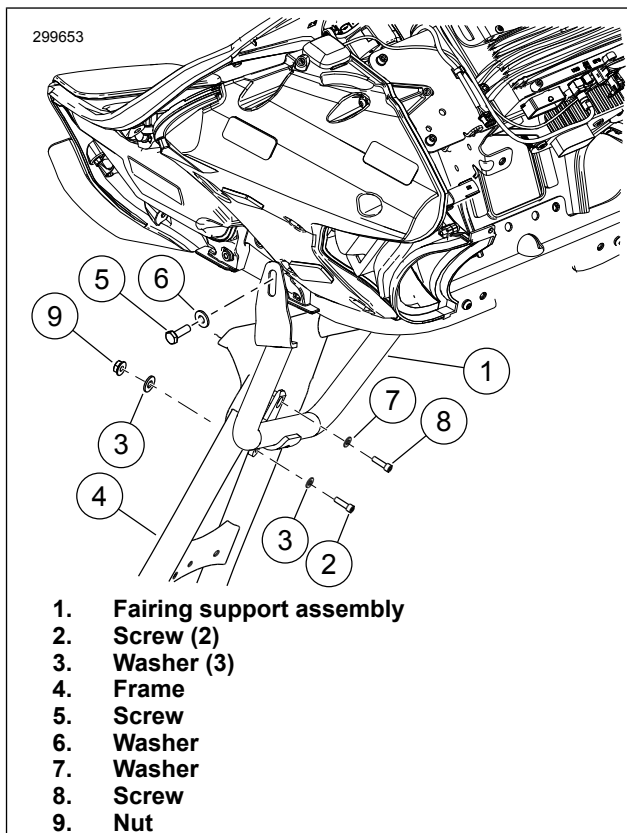

Figure 3. Install Fairing Support
See Figure 3. **2016 and earlier:** Install additional flat washers (3) between engine guard and frame.
2. Install the bottom brackets to the motorcycle frame with the two TORX screws (1), removed earlier.
1. See Figure 3. Hold the fairing support assembly in position, and loosely fasten the mid fairing support mount with the new hex socket screws (2, 8), flat washers (3, 7) and nut (9) from the kit.
2. Install the side brackets to the motorcycle with the two screws (5) and washers (6) removed earlier.